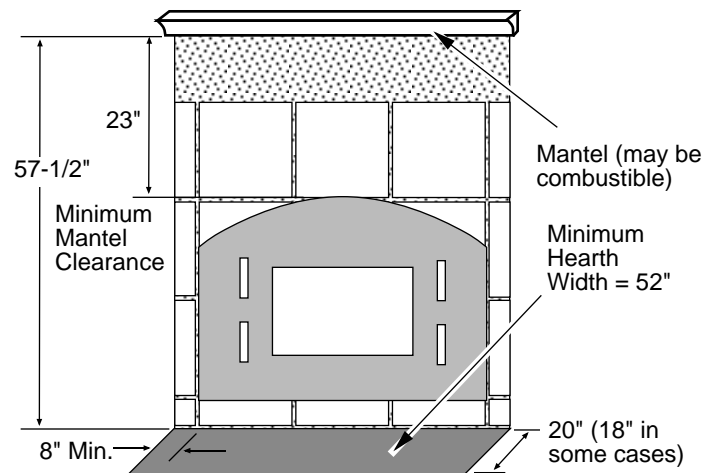

Figure 28
- The optional mantel must be a minimum 23" above the top of the faceplate (57-1/2" above the base). See Figure 28.